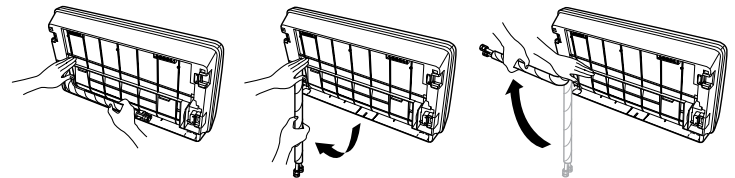
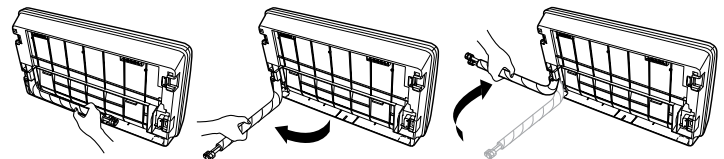

Figure 9: Correct Pipe Movement
Figure 10: Incorrect Pipe Movement
2. Slowly unfold the pipes downward as shown in Figure 9. Do not move the pipes outward as shown in Figure 10.